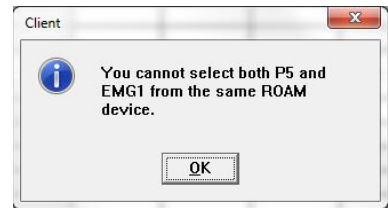

Figure 63: Roam EMG Connection Warning
**IMPORTANT:** The CH5 and EMG1 channels are the same port on the **Roam™** DX and cannot be connected to the same **Roam™** DX device. If using one **Roam™** DX then configure either a CH5 or EMG1 for the test. Refer to Figure 63 for the warning that will appear if both channels are entered into the Channels Settings Tab for the same device.